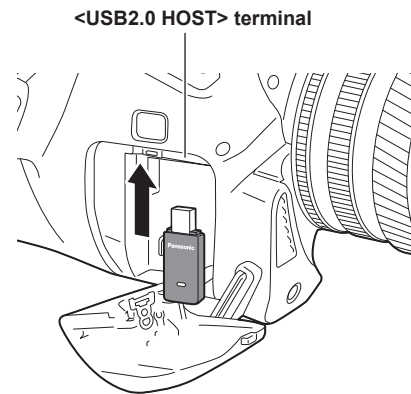

Fig. 2
**2** Connect the wireless module to the <USB2.0 HOST> terminal. (Fig. 2)